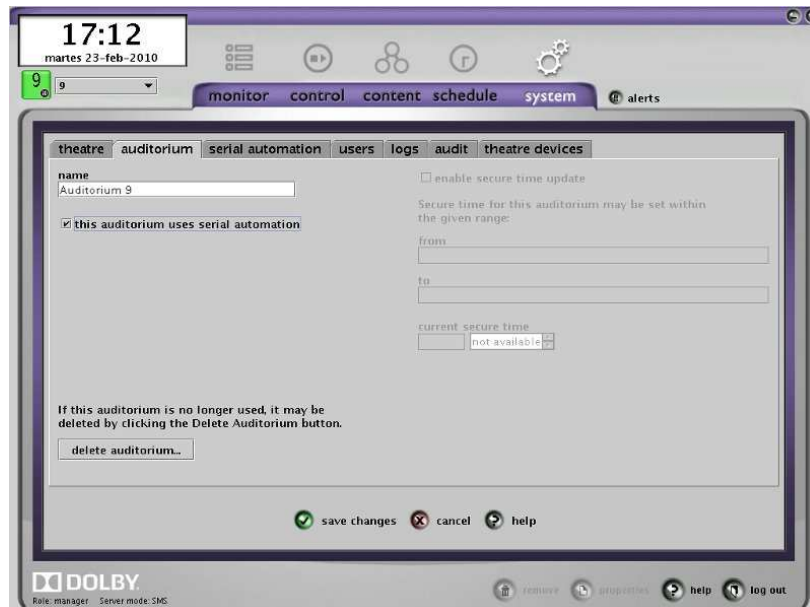

Figure 8.2A
2. In the tab "AUDITORIUM" mark the option "This automation uses serial automation" and save. It activates the "SERIAL AUTOMATION" menu tab (**Figure 8.2A**)